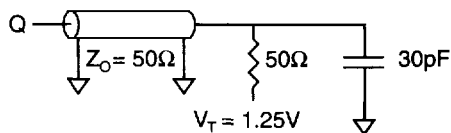

Fig. 1 OUTPUT LOAD EQUIVALENT
| Output load | See Figures 1 and 2 |
5. Test conditions as specified with the output loading as shown in Fig. 1 unless otherwise noted.
6. Output loading is specified using Fig. 1 with C_L = 5pF versus 30pF. Transition is measured ±150mV from steady state voltage.